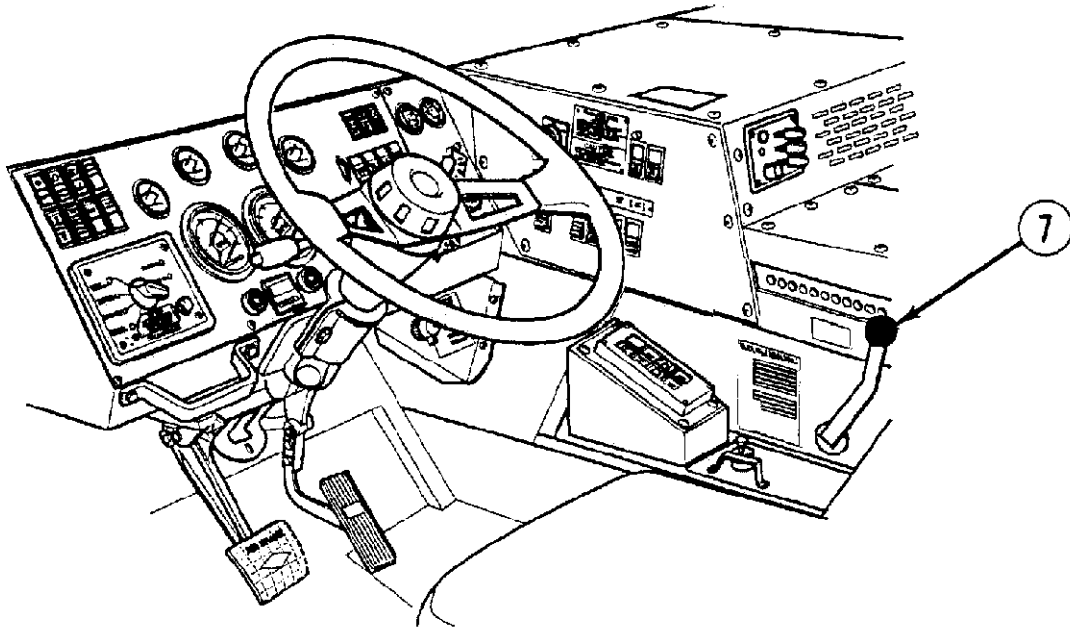

Figure 12. 17 Transfer Case Shift Lever
- Shovel a clear path ahead of each wheel. Put boards, brush, or similar material in cleared paths to get better traction. Set CTIS rotary selection switch (Figure 12. 14. (2)) to EMERGENCY position, transfer case lever (Figure 12. 17. (7)) to low and engage the transfer case lockup switch. Drive at low speed (five mph (eight km/h)) if in transit, or dead slow if deploying the launch vehicle, only when tire air pressures are reduced.